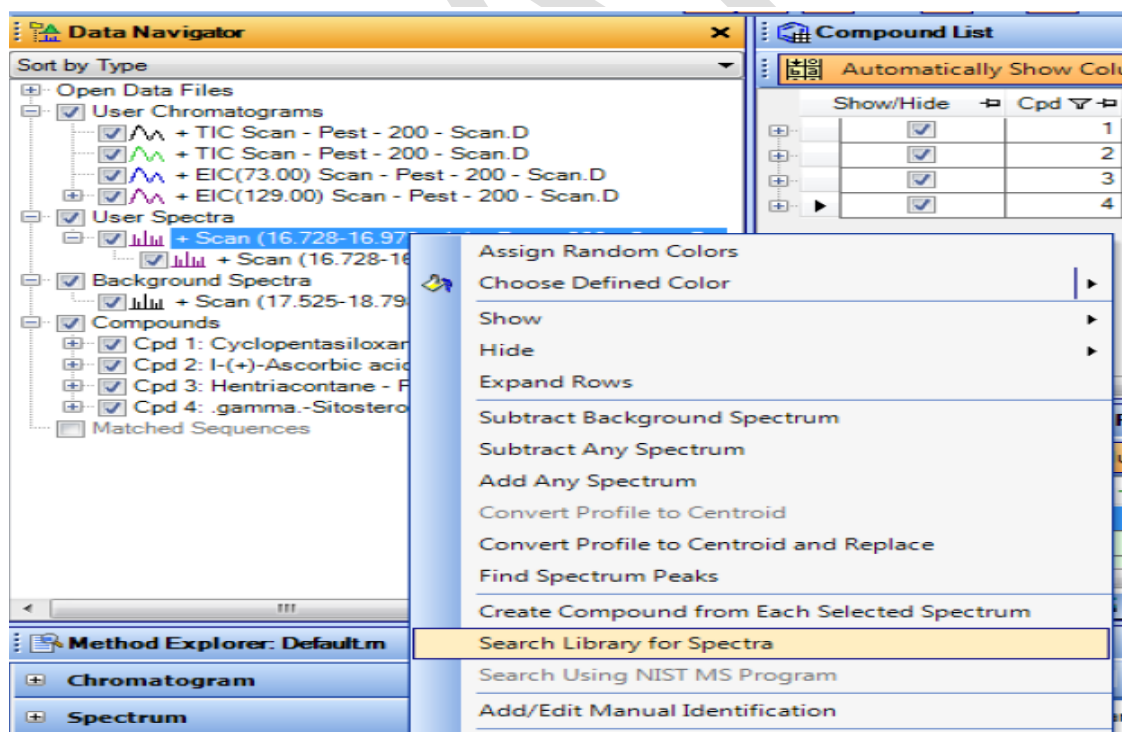

Fig.10
- e. To perform a library search: Choose the spectra and right click. Search library for spectra. The top 10 results will show up based on possibility (Fig.10).